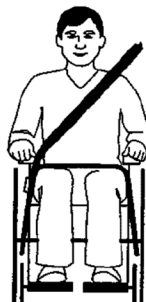

Fig. 6
3. The upper torso restraint belt must be fitted over the shoulder and diagonally across the chest. (Fig. 6)